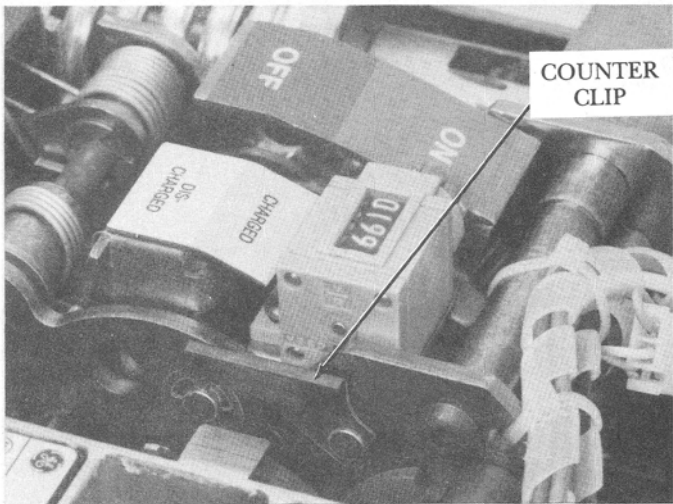

Figure 3. Mechanical counter installed in breaker.
8. Carefully remove the flag lockout plate, allowing the ON-OFF flag to return to the OFF position. The installed Mechanical Counter is shown in Figure 3.